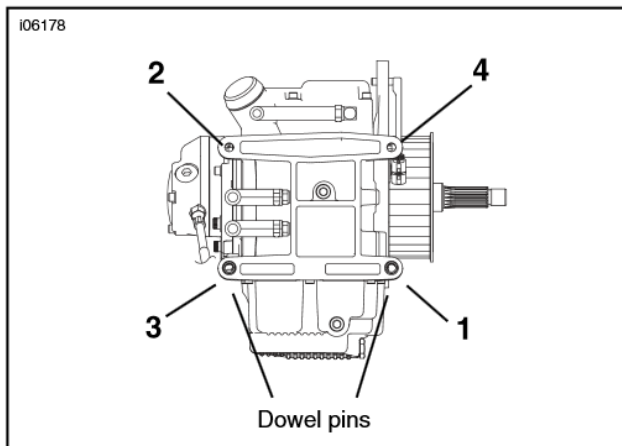

Figure 1. Transmission to Crankcase Torque Sequence
4. See Figure 1. Tighten the four transmission mounting bolts in a cross pattern sequence as follows: